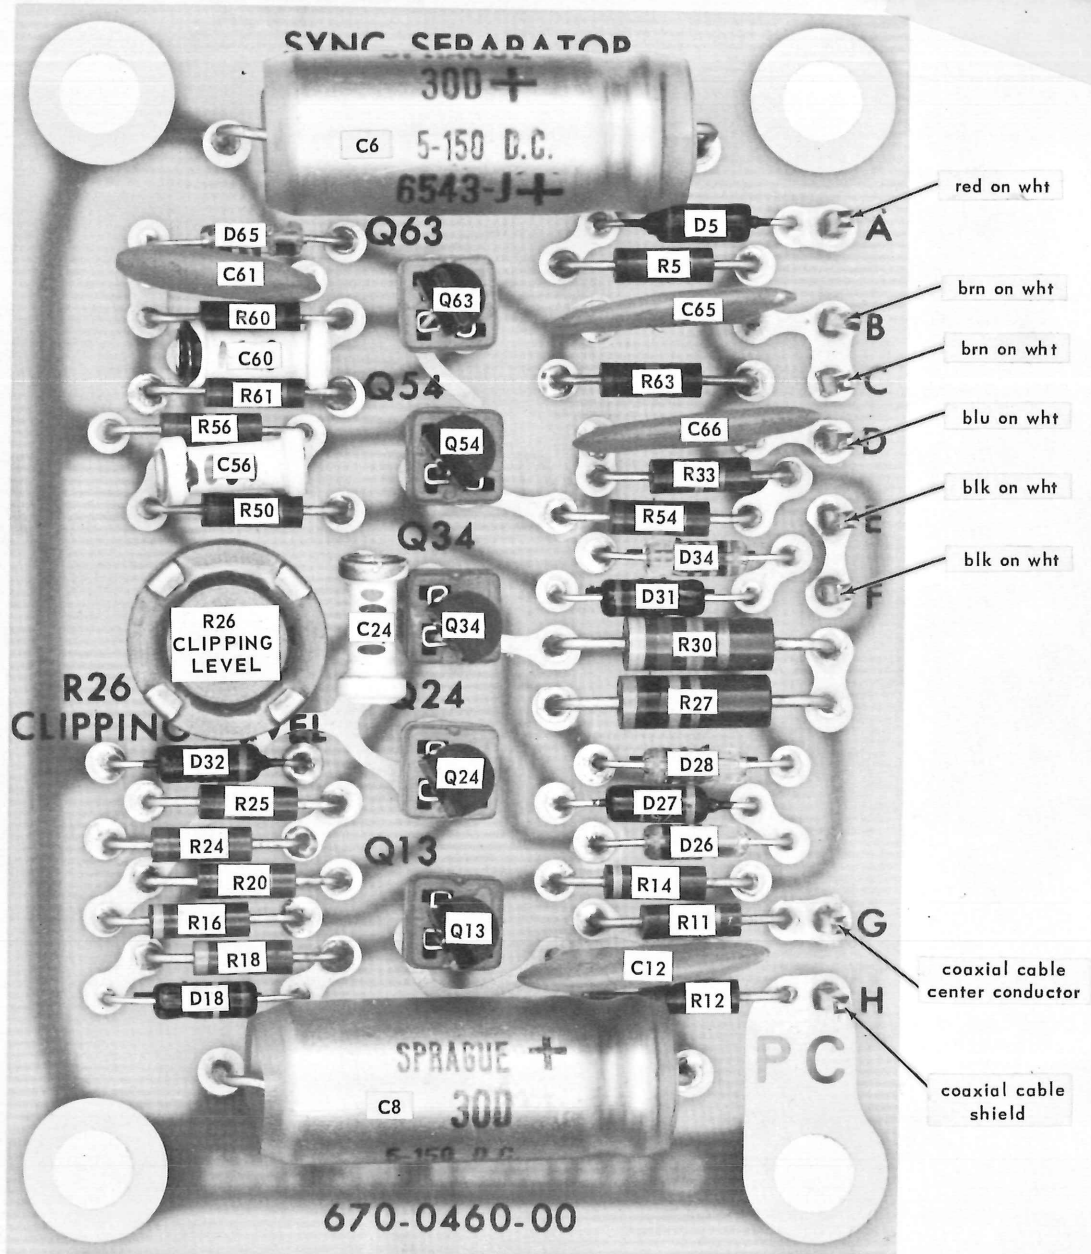

Fig. 4-1. Component locations on circuit board.
- g. To reassemble the TV Sync Separator, reverse the above procedure. Fig. 4-1 shows the wire connections to the circuit board.
Transistor Replacement. Transistors should not be replaced unless they are actually defective. Transistor defects usually take the form of the transistor opening, shorting, or developing excessive leakage. To check a transistor for these and other defects, use a transistor curve display instrument such as a Tektronix Type 575. However, if a good transistor checker is not available, a defective transistor can be found by measuring the transistor forward-to-back resistance using proper ohmmeter resistances, or by using the substitution method. A component location guide is given in Fig. 4-1.